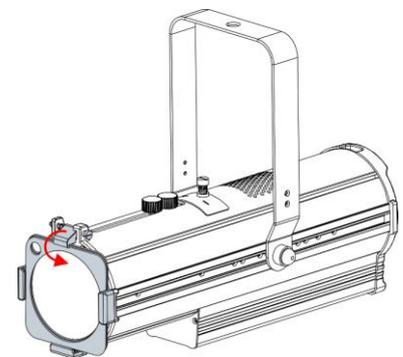

Fig. 10
- 04) Pull the **color frame clip (07)** downwards to release the **spring-loaded screw (06)** (see Fig. 10). The color frame will be locked in position.
- 05) Secure the color frame to the overhead structure with an appropriate secondary attachment, for example a safety cable. Put the safety cable through the **safety eye (19)** of the color frame. See **4.3. Rigging** on page 13 for more information.